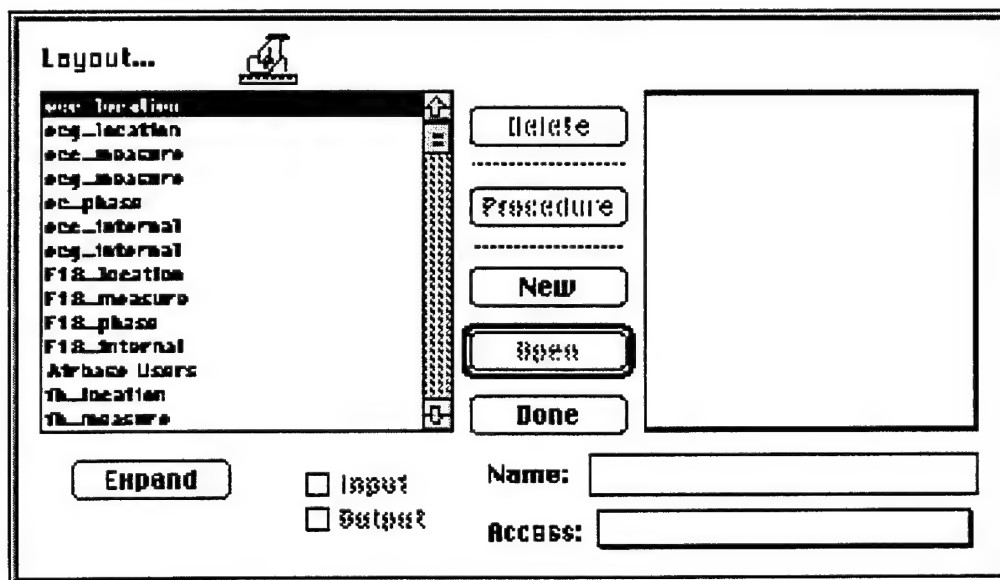

Figure 3.19: Layout Dialog Box
2. To modify or create a layout, select **Layout** from the **Design** menu. A dialog box as shown in Figure 3.19 will appear.